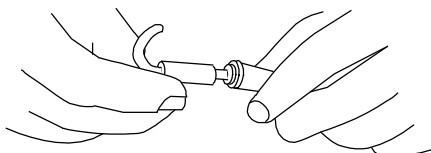

Figure 4.3D
- F. Install insulator sleeve or insulator sleeve assembly (See Table Two, Column D) over wire and seat on drive ferrule (See Figure 4.3D).